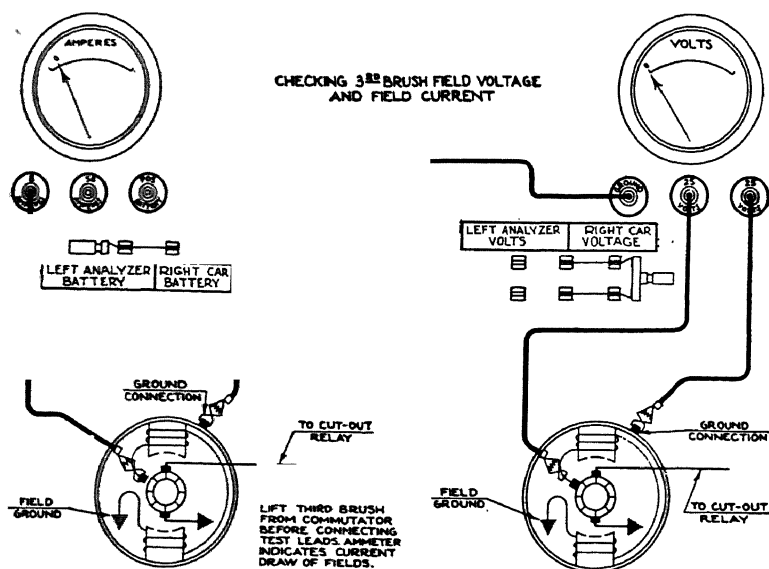

Fig. 11. Generator Field Test Equipment
**To Test Generator Field Coils.** Connect the ammeter test lead to 8-ampere terminal, Fig. 11, on test panel. Close the battery